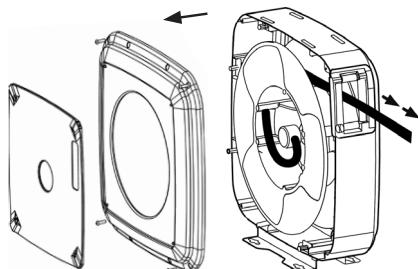

FIG 15.
1. Pull the hose out and let the hose get latched (Fig. 15).